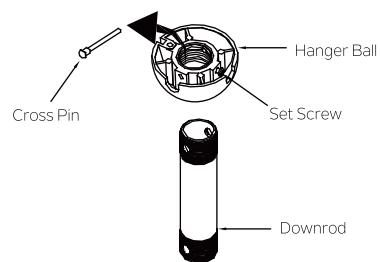

Fig. 6
**Step 2.** Remove the hanger ball from downrod assembly by loosening set screws , removing the cross pin, and sliding ball off the rod.( Fig. 6)